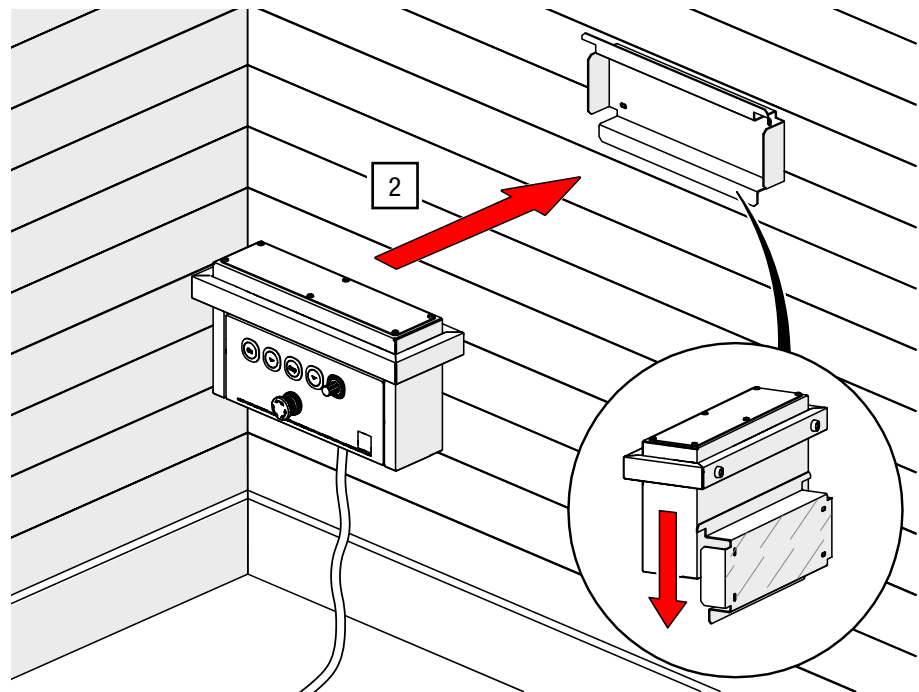

Fig. 27: Hang up the second control point.
2. Suspend the second control point from the mounting plate. Ensure a tight fit (see Fig. 27).